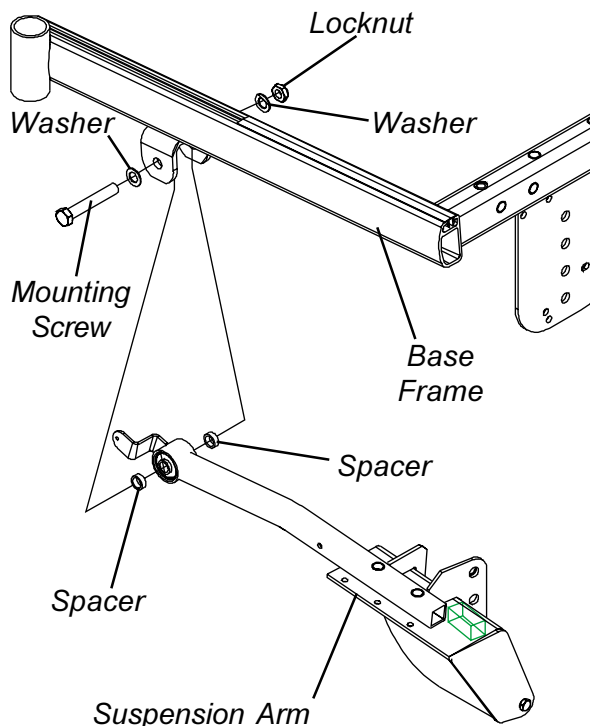

FIGURE 11 - REPLACING THE SUSPENSION ARM
**REPLACING SUSPENSION ARM (FIGURE 11)**
9. Remove the locknut, two (2) spacers, two (2) washers and the mounting screw that secures the EXISTING suspension arm to the base frame.